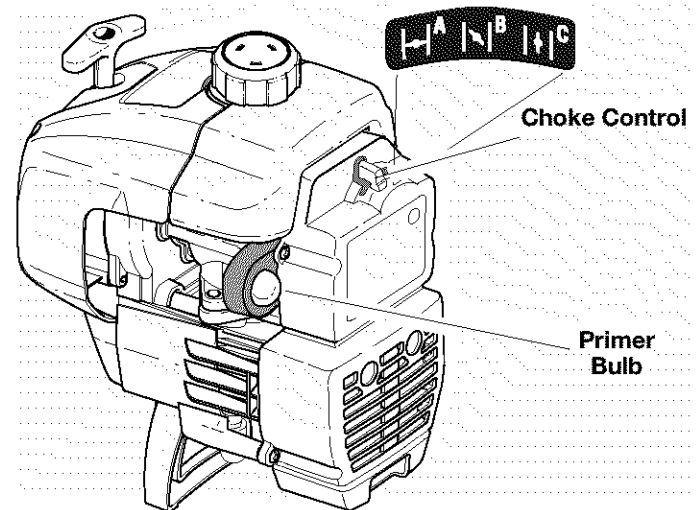

Fig. 16
1. Move On/Off Stop Control to **ON** (Fig. 16).
2. Fully press and release primer bulb 5 to 7 times. Fuel should be visible in the bulb (Fig. 16). If fuel hasn't entered the bulb, press three (3) more times or until it does.
3. Move choke control (Fig. 16) to **CHOKE (H A)**.
NOTE: If the engine floods while trying to start, place the choke lever in the **RUN (C) |H|** position (Fig. 16). Squeeze the throttle control. Pull the starter rope briskly. The engine should start within three (3) to eight (8) pulls.